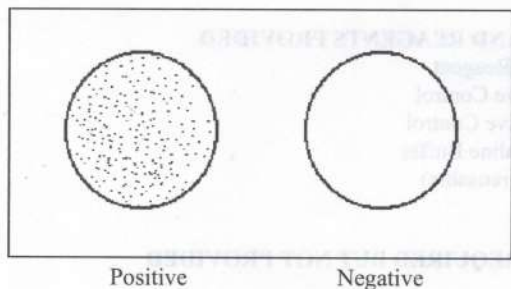

Figure 1.
2. **Positive reaction:** Any observable agglutination in the reaction mixture. A positive reaction indicates that the concentration of ASO in the specimen is equal or greater than 200 IU/mL. The specimen reaction should be compared to the ASO Negative Control (Fig. 1).